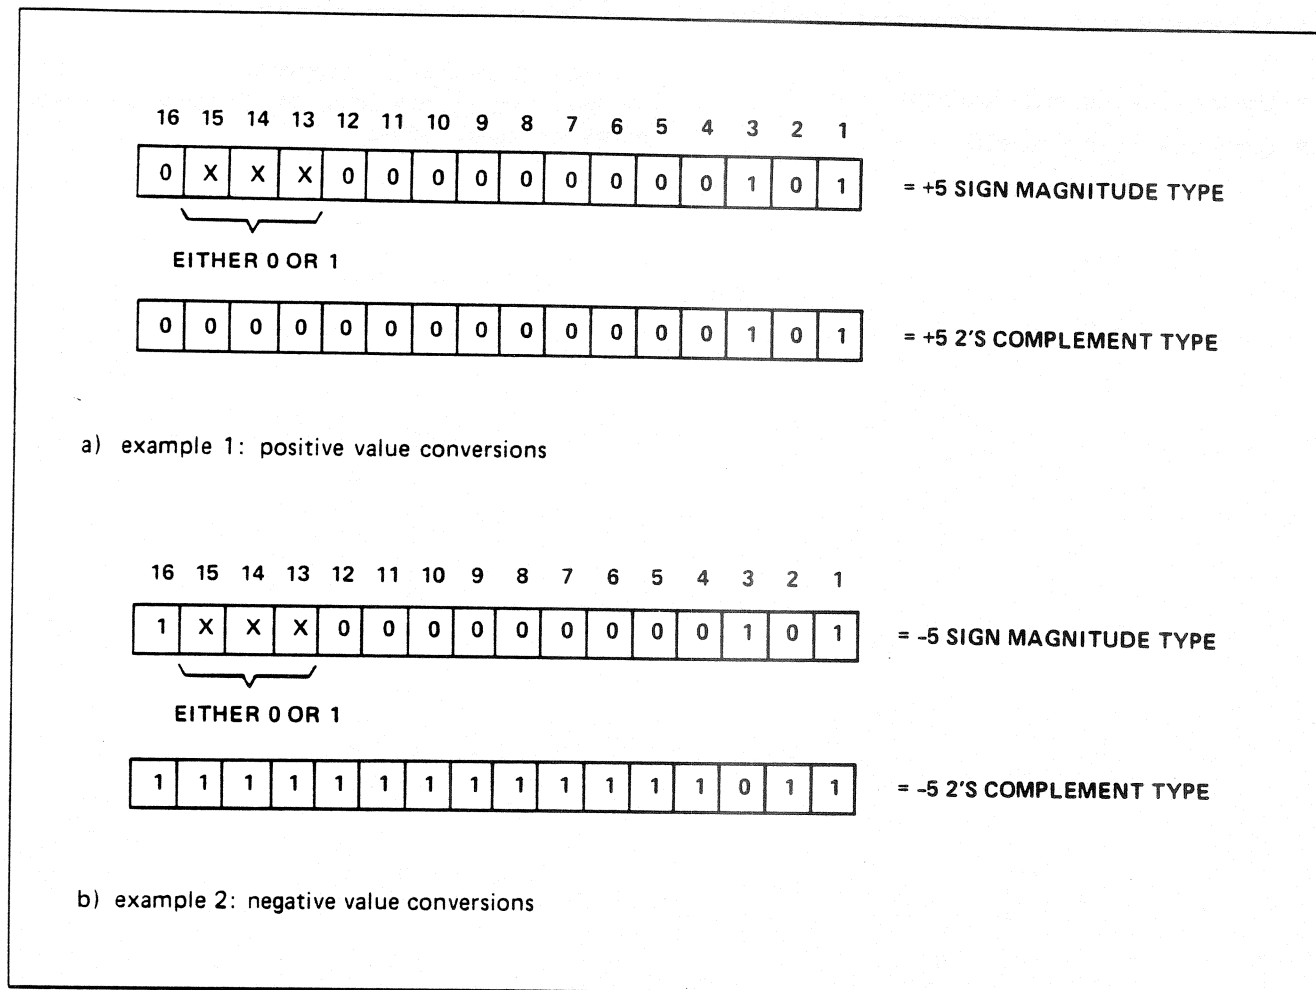

Figure AI-2. Analog In Function Operation
5. In Figure AI-2(a), example 1 shows the conversion of a positive sign-magnitude number into a binary value.
6. In Figure AI-2(b), example 2 shows the conversion of a negative sign-magnitude type number into a 2's complemented binary value.
Bit 16 of this Register contains the sign (0 = plus; 1 = negative). Bits 1 thru 12 contain the absolute binary number to be converted. See the examples of Figure AI-2.